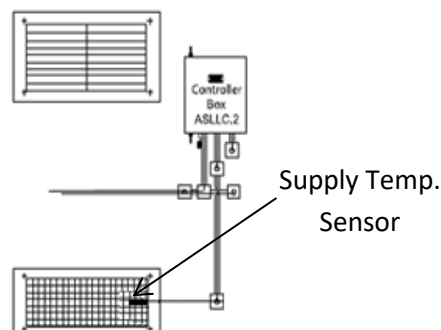

Figure 2: Supply Temp Sensor Location
- For both HVAC units, mount the supply air temperature sensor to the supply air grill (Figure 2).
- c. Move J7 from unit #2 to unit #1 (See Figure 2).